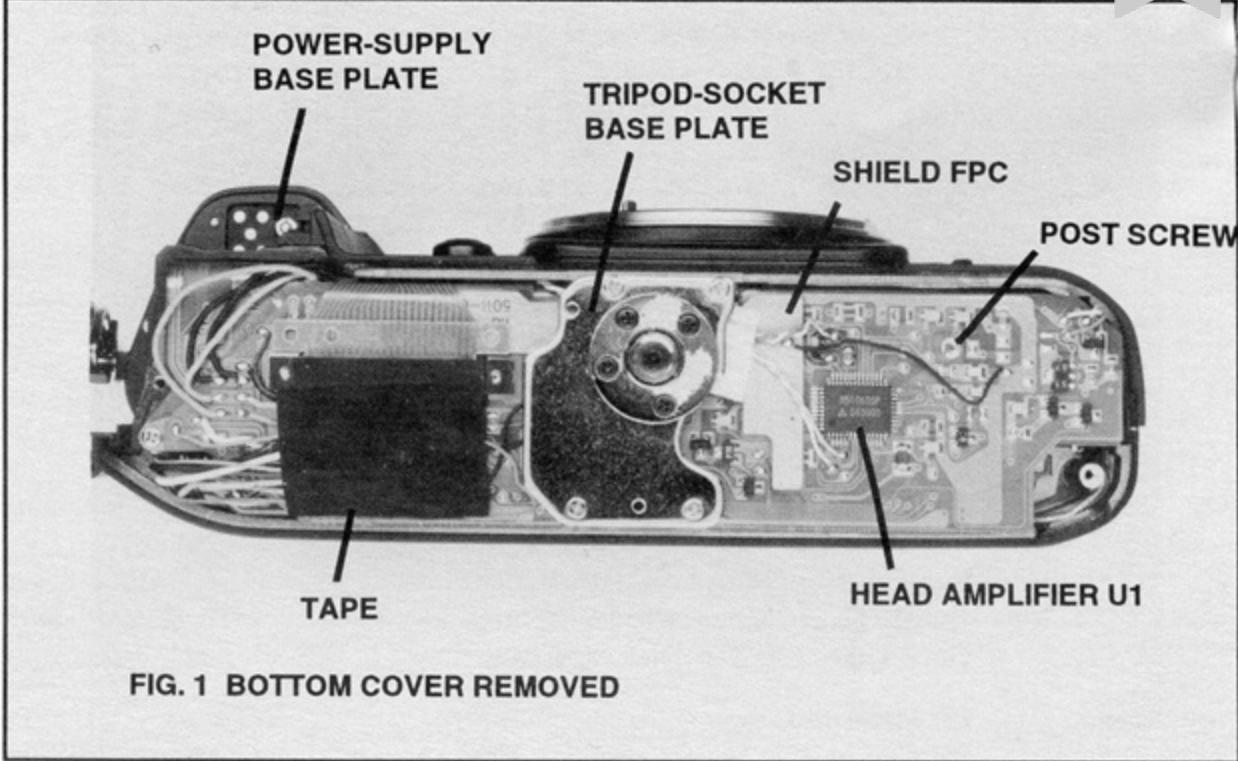
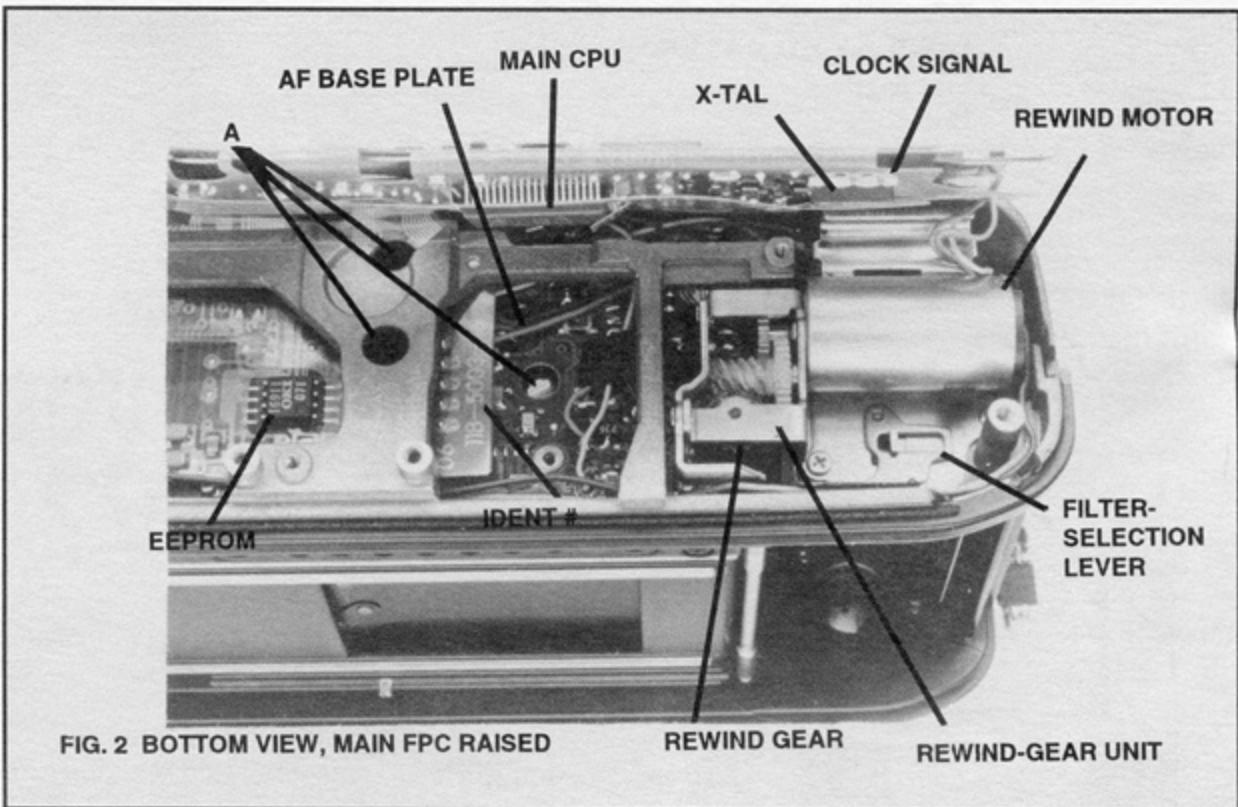

FIG. 1 BOTTOM COVER REMOVED
FIG. 2 BOTTOM VIEW, MAIN FPC RAISED
Note: If you're adjusting the CCD position with the computer, remove the tripod-socket base plate, the tape holding the wires, and the 3 screws holding the bottom of the main FPC, Fig. 1. Then raise the main FPC, Fig. 2, to reach the CCD adjustment screws. The extra length of the wires allows you to raise the main FPC.
and the tape over the wires, Fig. 1. Remove the 3 screws holding the bottom of the main FPC. Lift aside the bottom of the main FPC to reach the AF base plate, Fig. 2.
- replacing the main FPC**—the main FPC includes the EEPROM, Fig. 2; Nikon supplies the main FPC only as a complete unit.
3. Replacing rewind gear. Check the rewind gear by removing the bottom cover, the tripod-socket base plate, and the tape over the wires, Fig. 1. Remove the 3 screws holding the bottom of the main FPC (1 screw is a post screw, Fig. 1, the long screw goes at the release end). Raise the main FPC, Fig. 2, to check the rewind gear and rewind-gear unit.